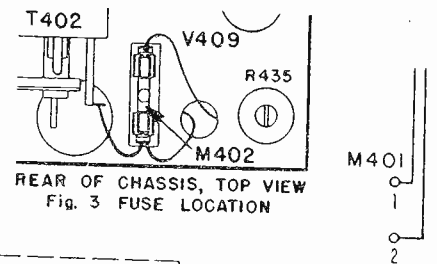

Fig. 3 FUSE LOCATION
8. Use a #36 drill bit to drill a hole 1-1/8" from rear of chassis and 2-1/4" from left side of chassis. Since there is not too much room to work in the 9-kv rectifier compartment, it is convenient to dismount R435 and remove V409 from its socket while drilling the hole as described above. This hole permits mounting the fuse holder with a #6 self-tapping screw (1A51-6-2). See Fig. 3.